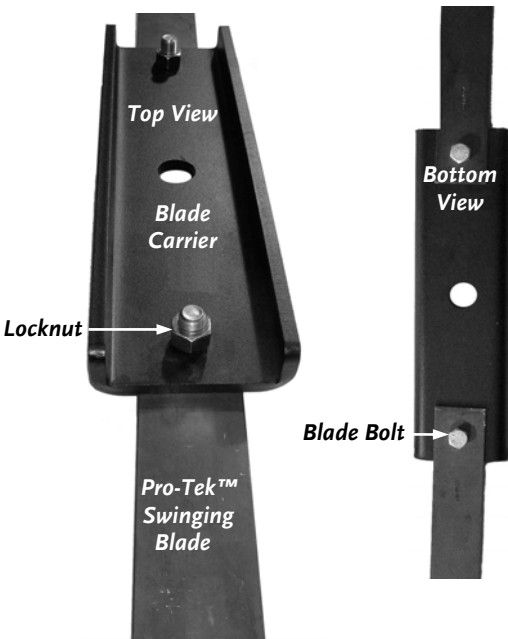

Figure 30
See Figure 30.
1. Using two 15/16" Wrenches, remove the Top Lock Nut (right-hand, regular thread) and then the Blade Bolt followed by the Pro-Tek™ Swinging Blade (**Figure 30**).
3. Install the Locknut until it just touches the Blade Carrier using two 15/16" Wrenches to allow for the Blade Swinging action (**Figure 30**).